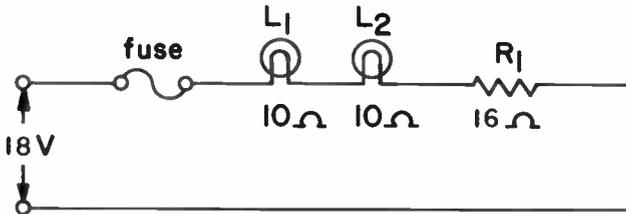

Fig. 35
10. Suppose you wish to determine the proper size of fuse to use in the circuit of Fig. 35. The size of a fuse is simply the number of amperes it can carry without melting and opening the circuit. So, to determine proper fuse size, you must first determine the normal current that flows in the circuit. You then choose a fuse with a little larger current rating than the normal circuit current. A suitable size of fuse to use in Fig. 35, therefore, would be a